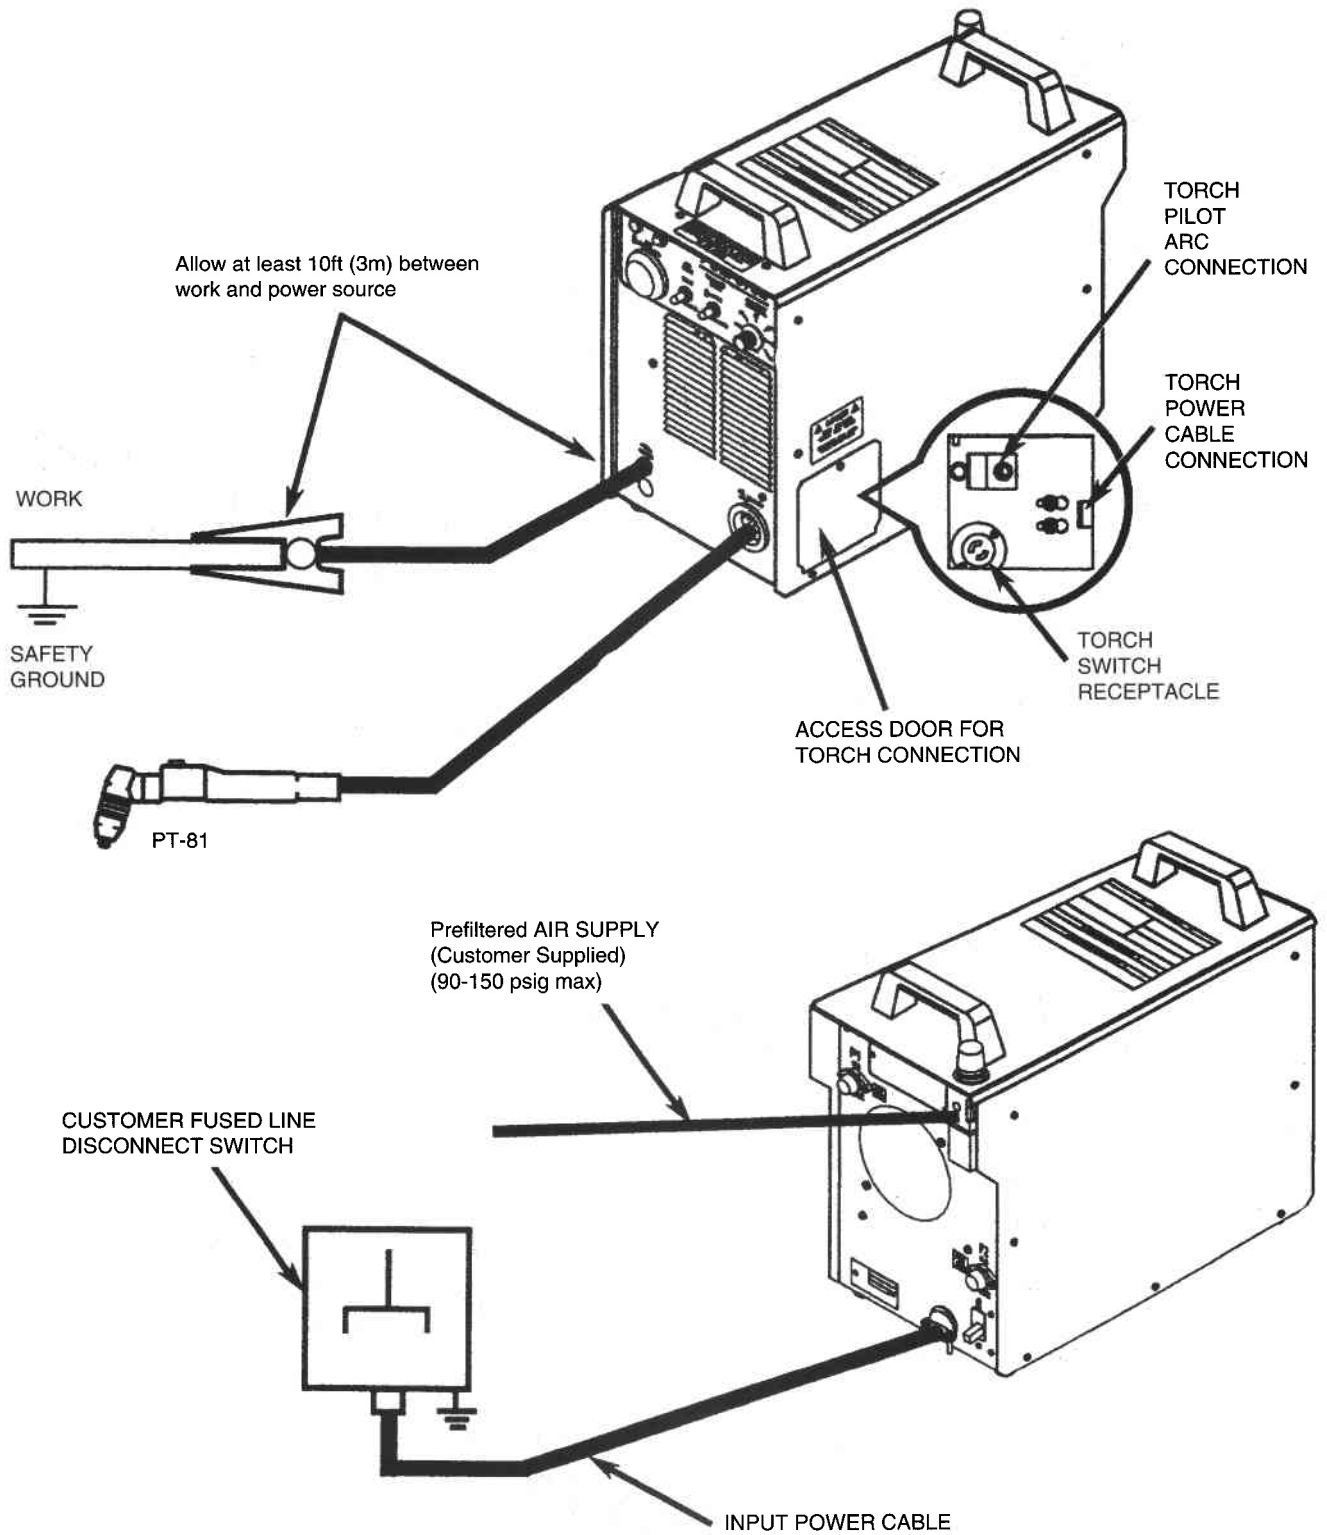

Figure 3 Sabre-Arc 60i Connection diagram
6. Connect the workpiece or work table to an approved earth ground with a properly sized ground cable refer to figs 3 and 4.